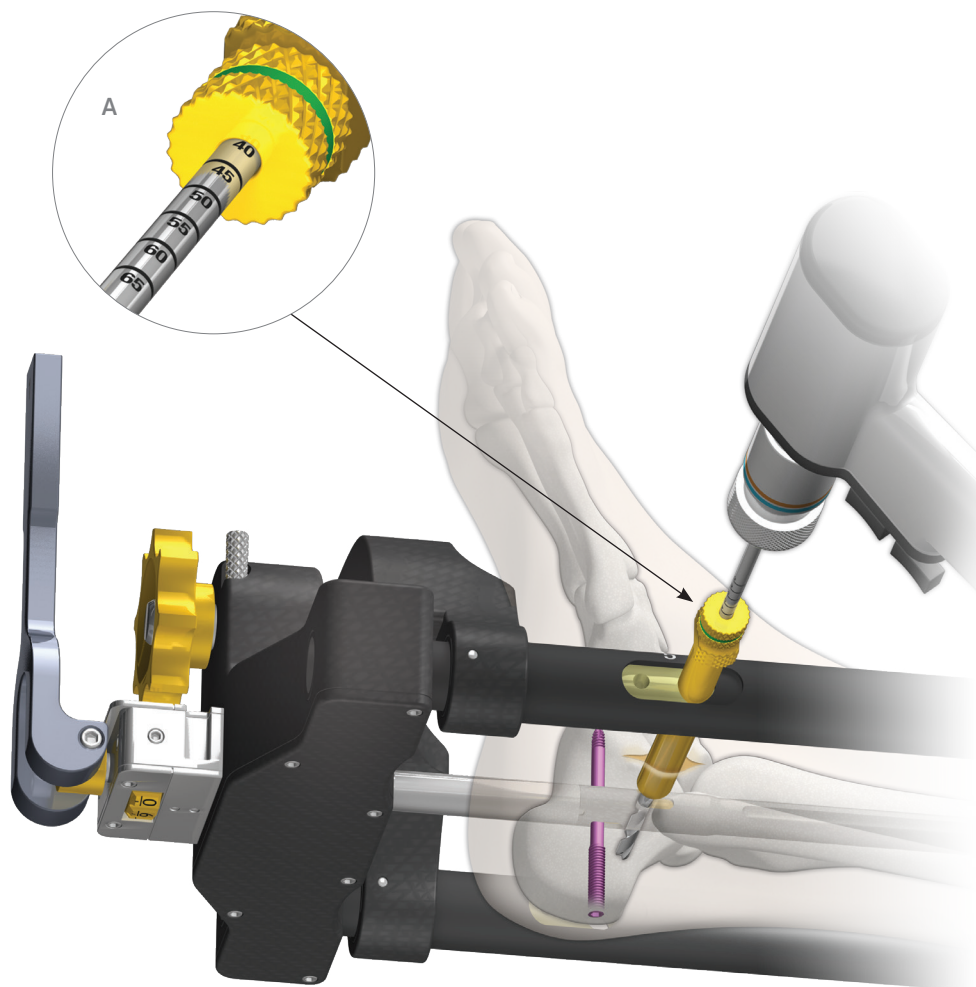

FIGURE 24
1. 8 mm Guide Sleeve (7)
2. Trocar Obturator (5)
3. 4 mm Drill Guide (6)
4. 4 mm Drill (20)
5. Drill Guide Screw Depth Gauge (*Optional*) (11)
6. Wide 3.5 mm Hex Driver (15)
7. Blue-Handle Ratchet Driver (6)
Thread the Trocar into the 8 mm Guide Sleeve. Insert the 8 mm Guide Sleeve and Trocar assembly into the lateral side of the DynaFrame™ Assembly. Make an incision at the Trocar tip and abut the Trocar against the calcaneus. Distal retraction of the peroneal tendons can sometimes be done to allow direct contact of the Trocar against bone. Leaving the Guide Sleeve in place, replace the Trocar with the 4 mm Drill Guide (A). Ensuring the Drill Guide is NOT resting against the bone, drill bicortical with the 4 mm Drill and measure the screw length off the Drill Guide in the same manner as previously described in Step 11 (FIGURE 24). Alternatively, the Screw Depth Gauge can be used to determine screw length. Note that the Screw Depth Gauge must also be read off of the Drill Guide as it abuts the bone.